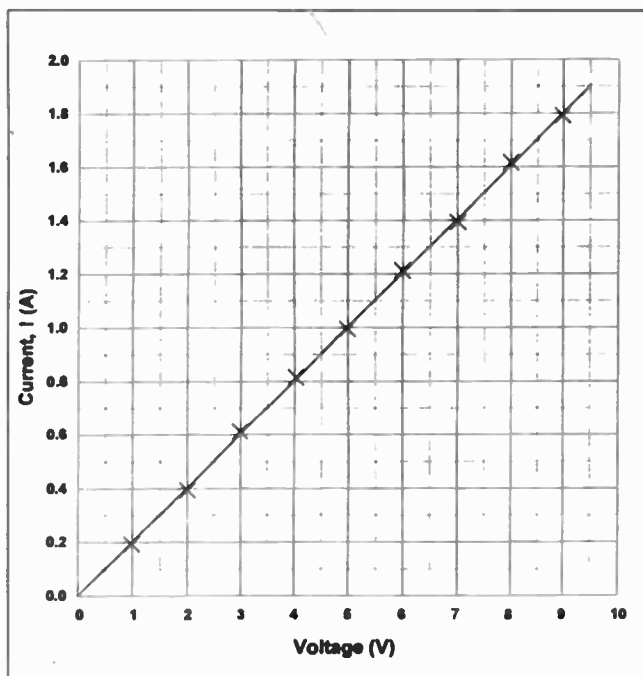
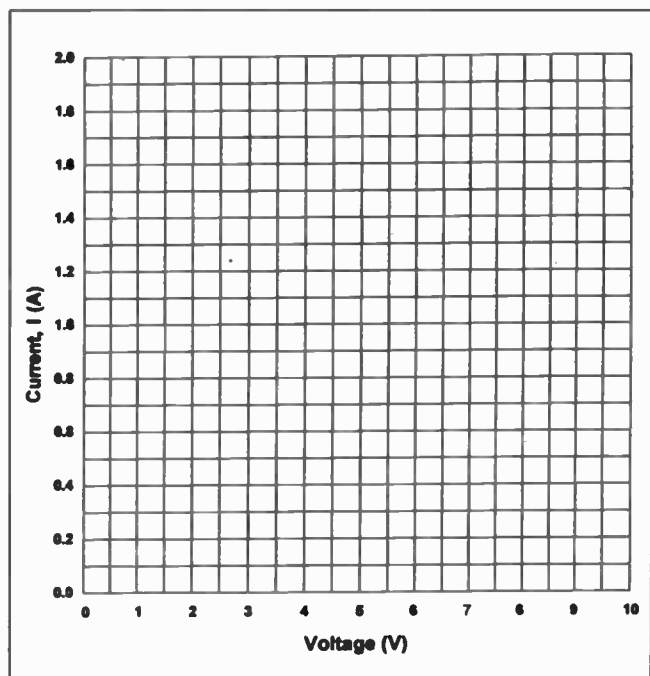

Fig. 1.12. How to plot the graph for assignment 1.2.
Fig. 1.13. Results graph for assignment 1.2.
- Plot a graph (using a common set of voltage and current axes) showing the results for all three resistor values. Fig. 1.12 shows how to plot the graph whilst Fig. 1.13 is provided for you to plot your own values.